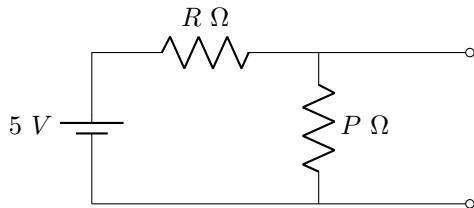

Figure 1: Circuit Diagram
- The Circuit diagram that is used inorder to collect the data is shown in the below figure 1.